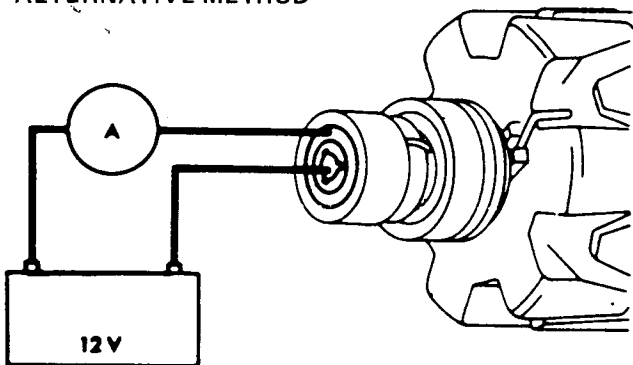

Fig O6.3
(3) Refer to Fig O6.3. Connect an ammeter and battery between the slip-rings.
(4) Check that the ammeter reads approximately 3 amps.